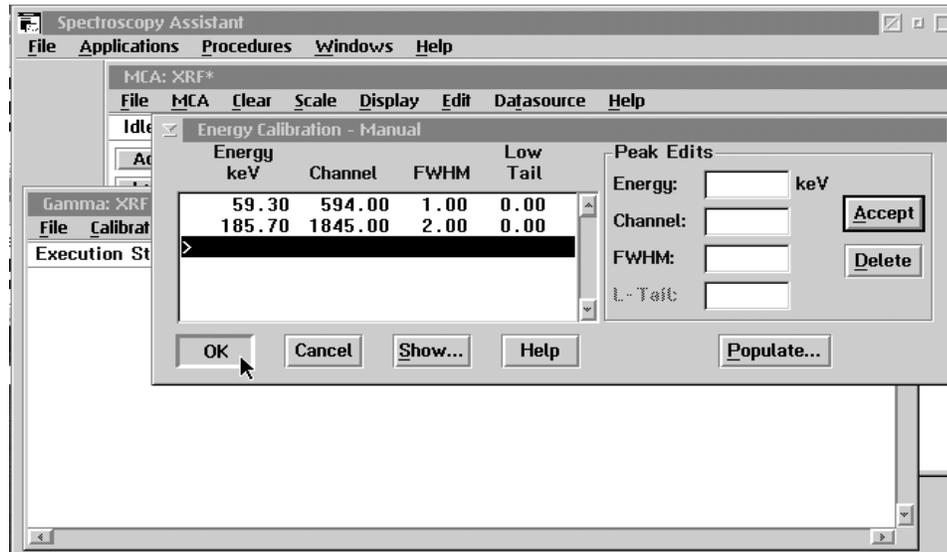

Figure 21. The “Energy Calibration – Manual” window showing new channel values and selection of the “OK” button to exit the window.
28. Verify that both peaks have the correct new channel values, then select the “OK” button as shown in Figure 21.